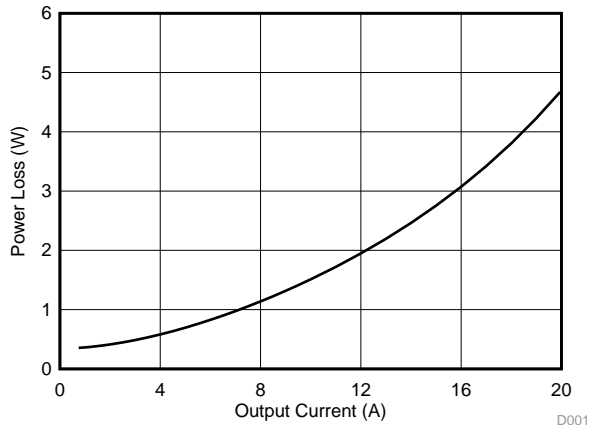
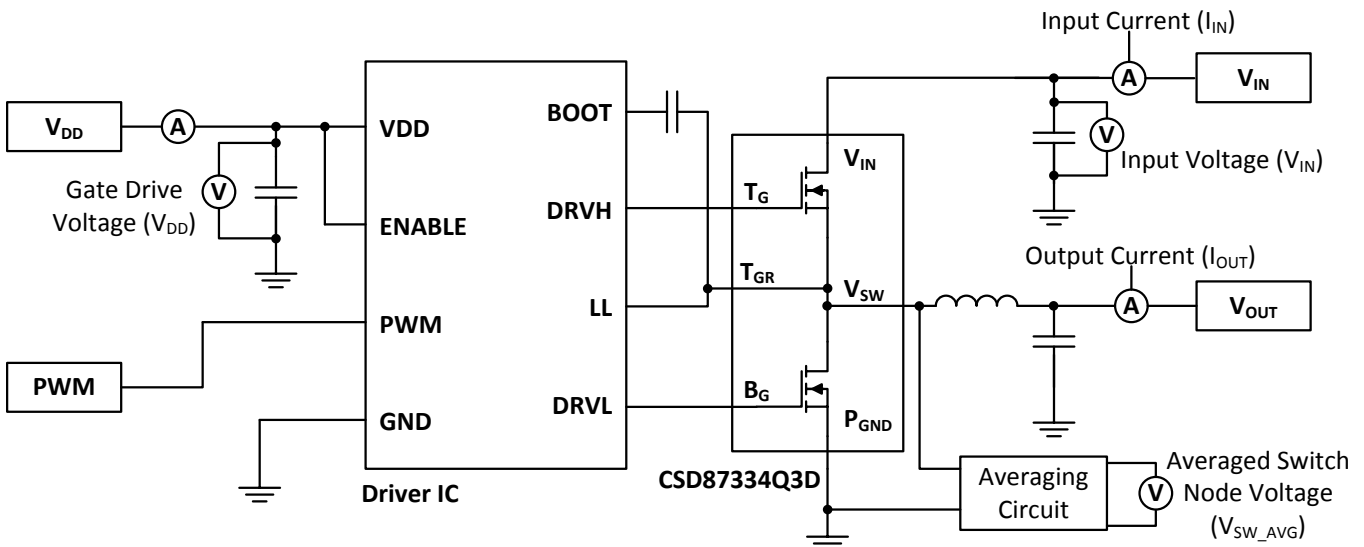

Figure 1. Power Loss vs Output Current
Figure 19. Typical Circuit Application
The typical power block system characteristic curves (Figure 1 through Figure 9) are based on measurements made on a PCB design with dimensions of 4 in (W) × 3.5 in (L) × 0.062 in (H) and 6 copper layers of 1-oz copper thickness. See *Application and Implementation* for detailed explanation. Conditions for Figure 1 through Figure 5 are given by the following; $V_{IN} = 12\text{ V}$, $V_{GS} = 5\text{ V}$, $V_{OUT} = 3.3\text{ V}$, $f_{SW} = 500\text{ kHz}$, $L_{OUT} = 1\text{ }\mu\text{H}$. $T_A = 125^\circ\text{C}$, unless stated otherwise.
The typical power block system characteristic curves (Figure 1 through Figure 9) are based on measurements made on a PCB design with dimensions of 4 in (W) × 3.5 in (L) × 0.062 in (H) and 6 copper layers of 1-oz copper thickness. See Application and Implementation for detailed explanation. Conditions for Figure 1 through Figure 5 are given by the following; $V_{IN} = 12\text{ V}$, $V_{GS} = 5\text{ V}$, $V_{OUT} = 3.3\text{ V}$, $f_{SW} = 500\text{ kHz}$, $L_{OUT} = 1\text{ }\mu\text{H}$, $T_A = 125^\circ\text{C}$, unless stated otherwise.
MOSFET centric parameters such as $R_{DS(ON)}$ and Q_{gd} are needed to estimate the loss generated by the devices. In an effort to simplify the design process for engineers, Texas Instruments has provided measured power loss performance curves. Figure 1 plots the power loss of the CSD87334Q3D as a function of load current. This curve is measured by configuring and running the CSD87334Q3D as it would be in the final application (see Figure 19). The measured power loss is the CSD87334Q3D loss and consists of both input conversion loss and gate drive loss. Equation 1 is used to generate the power loss curve.
The power loss curve in Figure 1 is measured at the maximum recommended junction temperatures of 125°C under isothermal test conditions.
- Power loss at 15 A = 2.8 W (Figure 1)